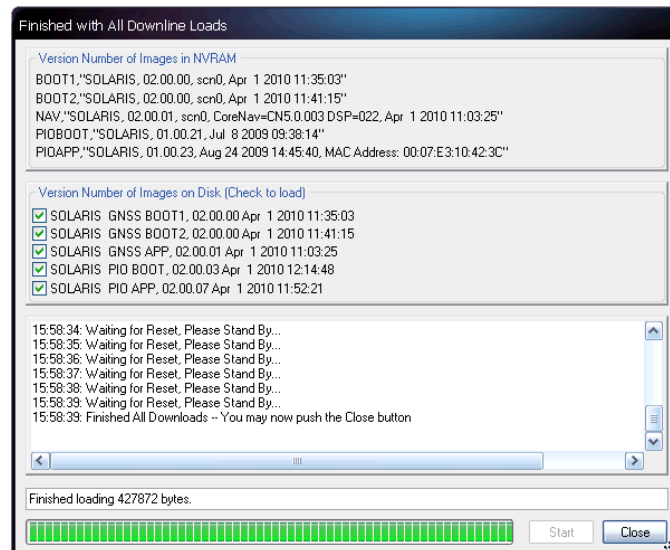

Figure 22: Finished with All Downline Loads
54. Once the firmware files are uploaded, the *Finished with All Downline Loads* dialog box is displayed (see Figure 22).